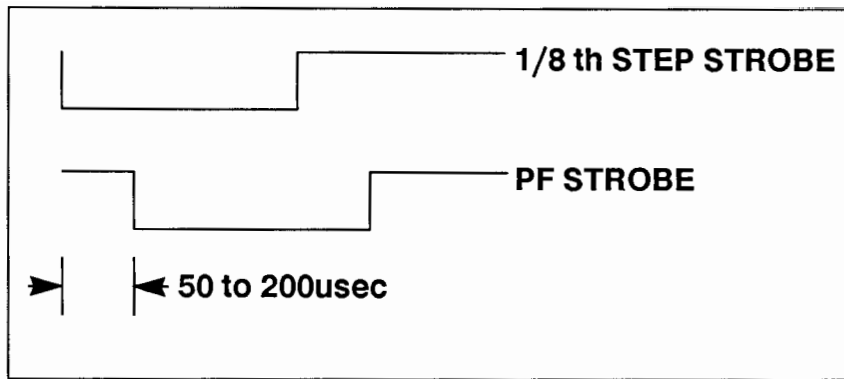

Figure 6-10. Radial Alignment
4. Loosen the screws holding the optical sensor to its mounting plate and move the sensor body to obtain the waveform shown in Figure 6-10. If the proper timing can not be obtained, the dual strobe sensor is defective.